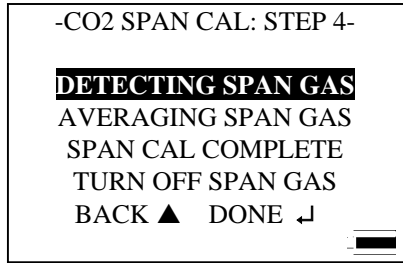

Figure 4-9: CO₂ Span Calibration: Step 4 Screen
10. The Q-TRAK Plus monitor will indicate the status of the calibration process. The process will end successfully when "SPAN CAL COMPLETE" message highlights (Figure 4-9).